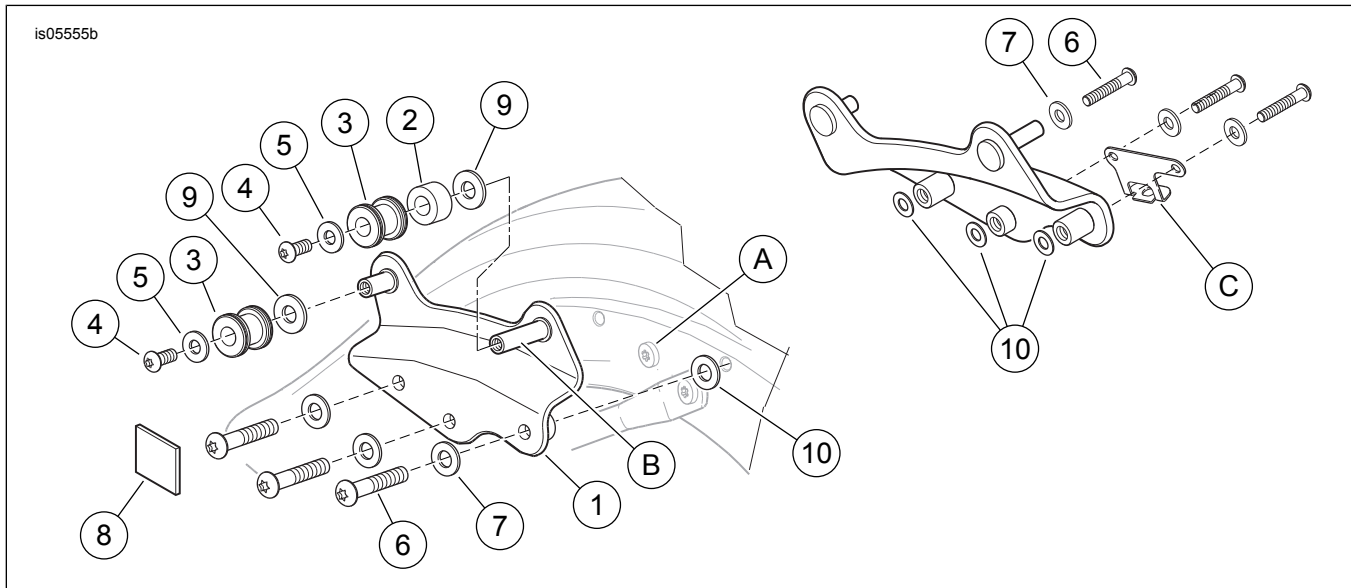

Figure 3. Service Parts, Four-Point Detachable Docking Hardware Kit
See Figure 3 and Table 1.
1. **ALL Models:** See Figure 3. Remove the screw (A) retaining the rear of the chrome cover to the rear frame extension on each side of the vehicle.
2. Place a washer (7) over the threads of each of the larger TORX[®] head screws (6) from the kit.
4. See Figure 3. Slide a spacer (2) onto the longer pin (B) of each docking plate. Install the four docking points (3), chamfer end first, onto the long and short docking plate pins with washers (5) and smaller TORX screws (4). Tighten bolts until snug.